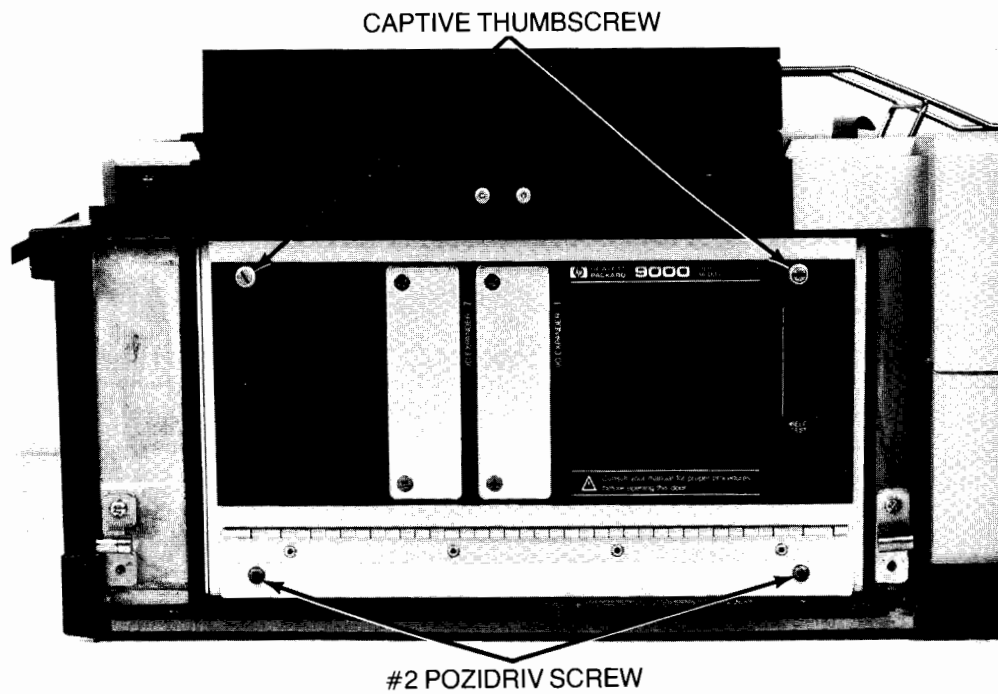
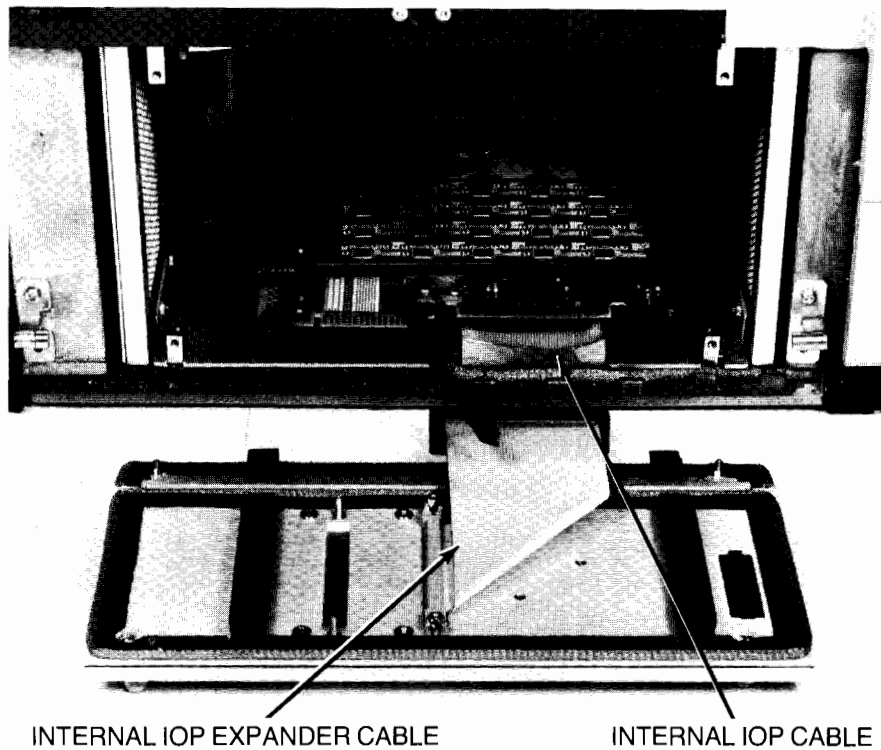

Figure 4-20. Removing Processor Stack Door
Figure 4-21. Disconnecting IOP Cables
- Loosen two #2 Pozidriv captive screws at bottom of processor stack door (Figure 4-20).
6. Loosen two captive thumbscrews on processor stack door (Figure 4-20) and remove door. Disconnect internal IOP expander cable(s), if present, from IOP finstrate(s) (Figure 4-21).
7. If board in slot #1 or #2 is being replaced, disconnect internal IOP cable from IOP finstrate in slot #2 (Figure 4-21).
4. Loosen two captive thumbscrews on processor stack door (Figure 4-20) and swing door open, allowing door to rest in open position.
6. Loosen two #2 Pozidriv captive screws at bottom of processor stack door (Figure 4-20).
7. Loosen two captive thumbscrews on processor stack door (Figure 4-20) and remove door. Disconnect internal IOP expander cable(s), if present, from IOP finstrate(s) (Figure 4-21).
8. Disconnect internal IOP cable from IOP finstrate in slot #2 (Figure 4-21).